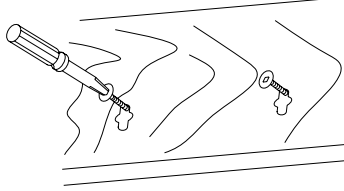

Fig.5
3. Set housing aside and drive nails partially into joist at the top of both keyhole marks.(Fig.5)